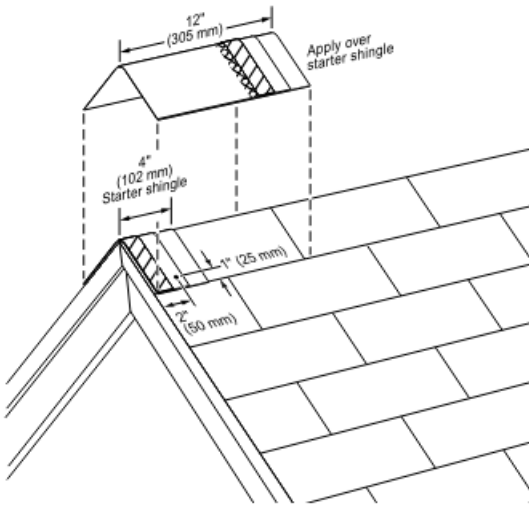
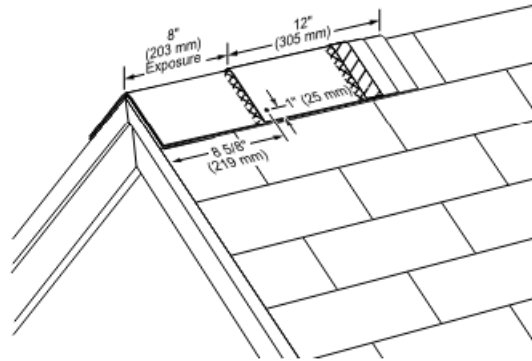

Figure 11
Figure 12
FASTENING IMPORTANT: Use TWO nails to fasten each shingle. Fasteners must be minimum 45mm long. For the starter shingle, place fastener 25mm in from each side edge and about 50mm up from the starter shingle’s exposed butt edge, making sure fastener goes 20mm into the deck or all the way through the deck. (see Figure 11). For each full Cedar Crest shingle, place fasteners 219mm up from its exposed butt edge and 25mm in from each side edge (see Figure 12).
- Apply the 100mm starter piece with raised overlay edge over the bottom corner of the hip or to either end of the ridge, overhanging the corner or end by approximately 12mm and bending the starter shingle along its centreline to form into place (see Figure 11).